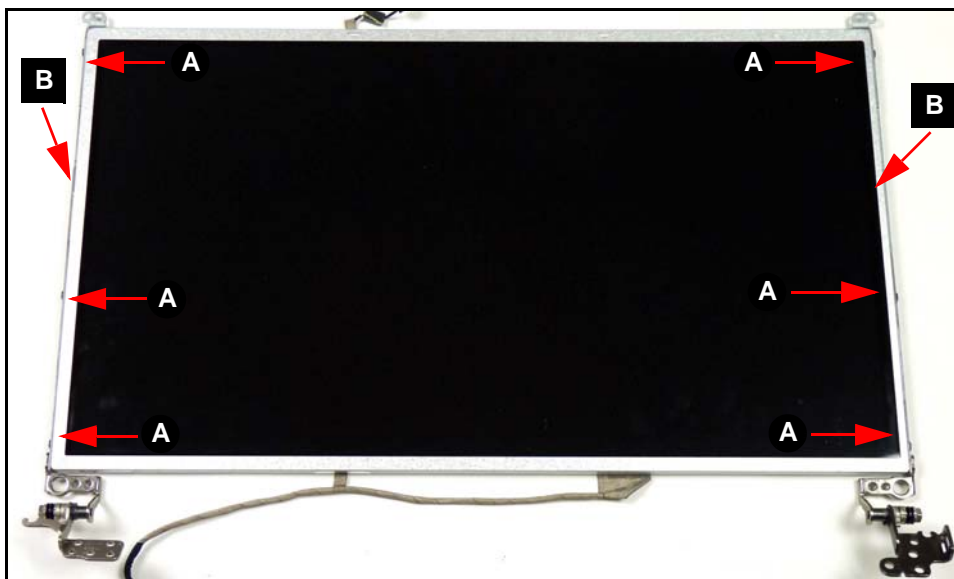

Figure 3-63. LCD Brackets Module
1. Remove six (6) screws (A) from panel. (Figure 3-63)
1. Install brackets (B) on panel (Figure 3-63).
2. Install and secure six (6) screws (A) to panel.